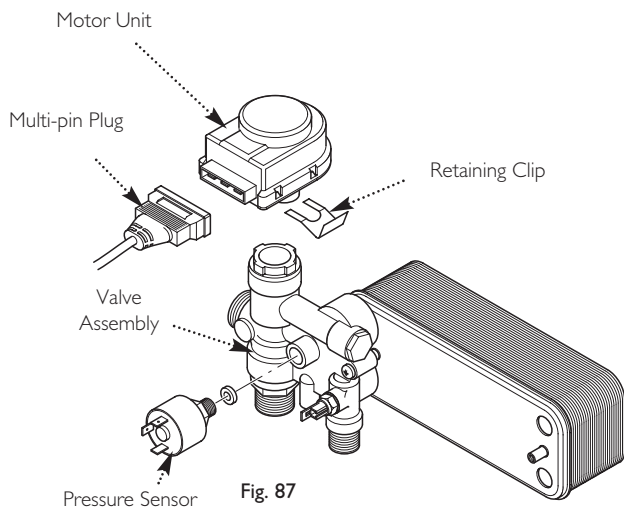

Fig. 87
14.20 Diverter Valve - Motor Unit & Assembly (Figs. 87 & 88)